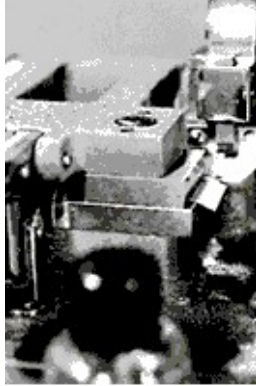

Figure 10
- With the fingernail of your right index finger, bend down the edge of the overhanging half frame (Fig. 10). This will make it much easier for you to scrape off the emulsion without tearing the film.